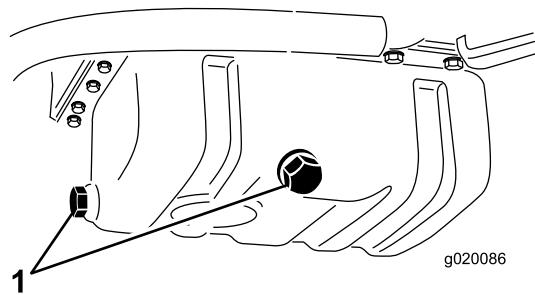

Figure 53
- Remove either drain plug (Figure 53) and let the oil flow into a drain pan. When the oil stops flowing, install the drain plug.